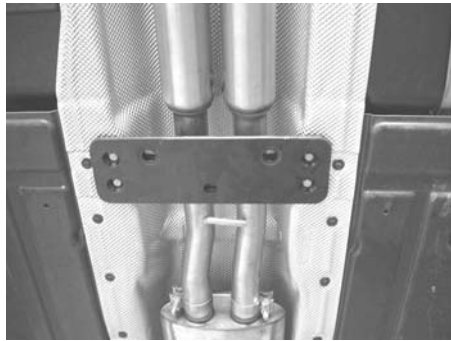

**Figure 7**
2. Using the original hardware, install and secure the lower portion of clamp shown in figure 7.